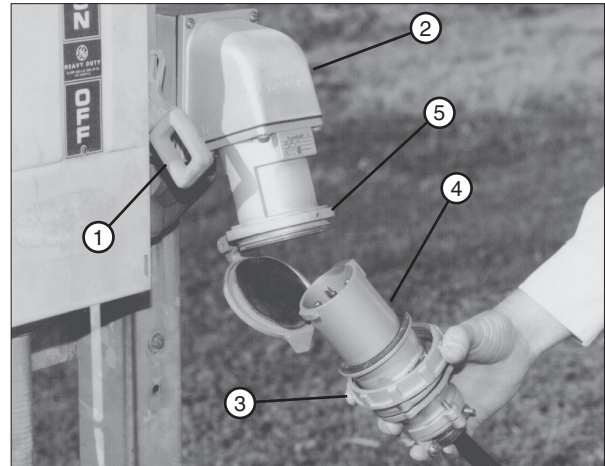

Figure 67-1 1. Disconnect Switch 2. Power Pedestal 3. Plug Cap Collar 4. Plug 5. Receptacle
- Turn the power pedestal disconnect switch to the OFF position. See figure 67-1.
- Remove plug cap from electric cord plug, and insert the electric cord plug into the power pedestal receptacle. See figure 67-1.